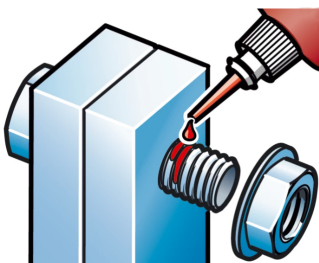

FIG 1
- 2. For through hole , insert bolt and apply adhesive to the exposed thread. Assemble nut and tighten to the correct torque (FIG 1).**